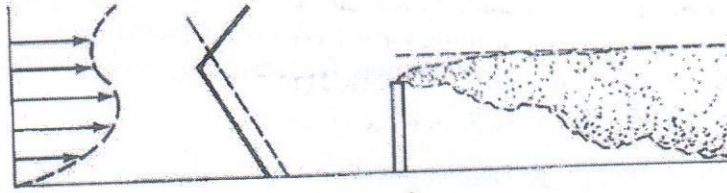
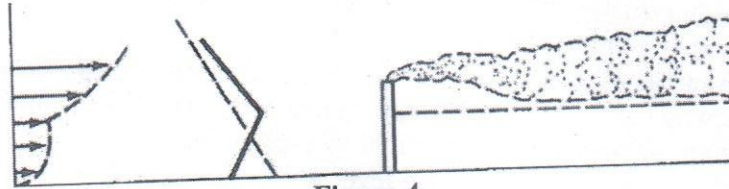

Figure 3
Figure 4
5. (a) Identify, define and briefly explain the plume patterns from **Figure 3** and **Figure 4** where the velocity and adiabatic lapse rate profiles are shown. (8)